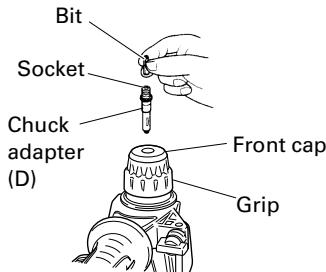

Fig. 11
### 4. When driving machine screws (Fig. 11)
- Do not attempt to use the rotary hammer in the rotation and hammering function with chuck adaptor (D) and bit attached.
5. When driving wood screws (Fig. 11)